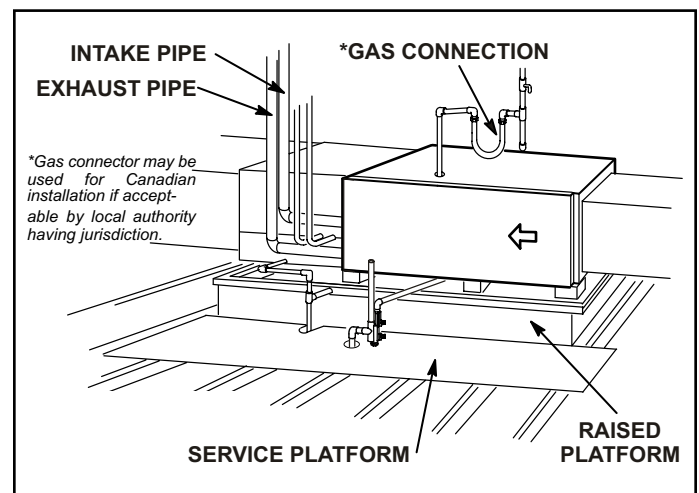

Figure 20.
platform, as shown in Figure 20. A horizontal suspension kit (51W10) may be ordered from your distributor or use equivalent.
2. Construct a raised wooden frame and cover frame with a plywood sheet. If unit is installed above finished space, fabricate an auxiliary drain pan to be installed under unit. Set unit in drain pan as shown in Figure 20. Leave 8 inches for service clearance below unit for condensate trap.